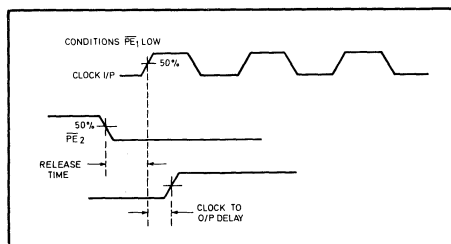

Fig. 4 Release timing diagram
- Release time is defined as the minimum time that can elapse between a H \rightarrow L transition of a control input and the next L \rightarrow H clock pulse transition to ensure that the ± 11 mode is forced by that clock pulse (see Fig. 4).